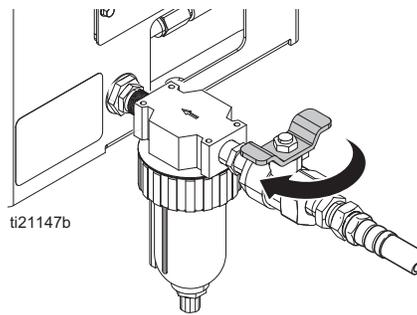

FIG. 11
19. Attach a 3/8 in. minimum air supply line to air filter. See FIG. 11.